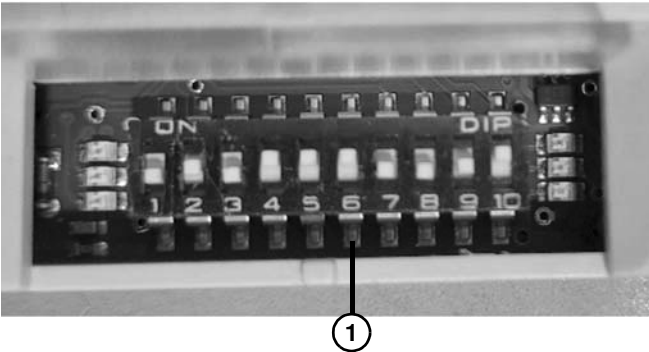

Figure 26
- Direction: DIP Switch 6 (**Figure 26, item 1**), and switch settings chart **Figure 27**.